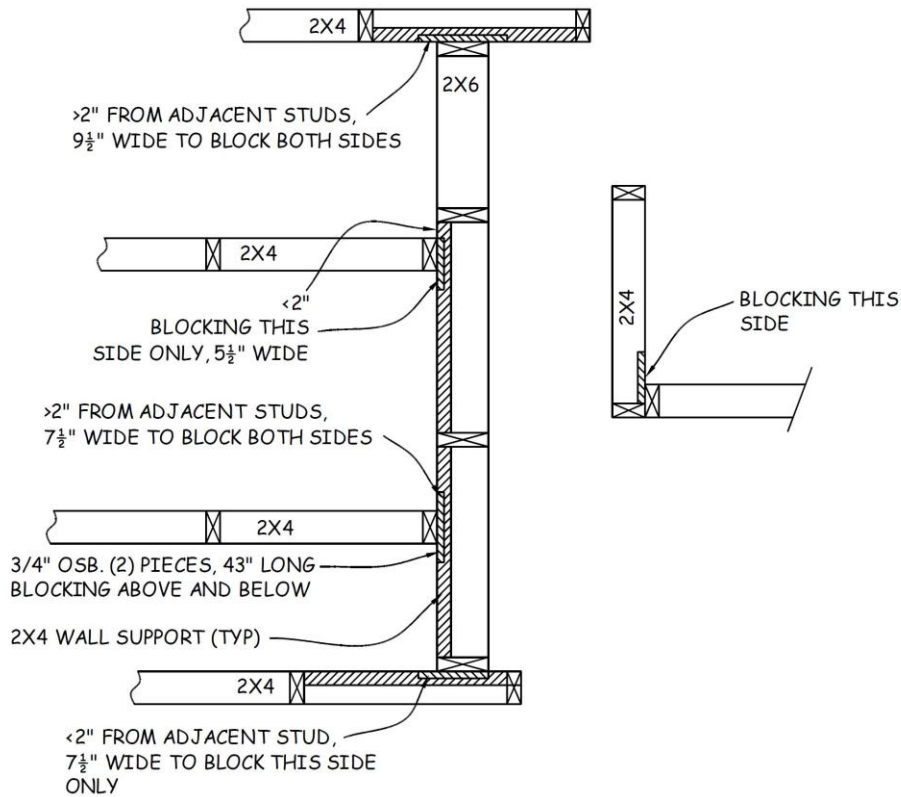

Figure 10-6. Blocking for Wall Rock.
4. Install two 43" long pieces of $\frac{3}{4}$ " OSB blocking at the ends of any interior walls that intersect an exterior wall – one above the 2x4 ladder block and one below the 2x4 ladder block. The blocking must extend at least 2" beyond the edges of the stud, so cut the OSB to a width of $5\frac{1}{2}$ " or $7\frac{1}{2}$ " for a 2x4 wall and $7\frac{1}{2}$ " or $9\frac{1}{2}$ " for a 2x6 wall. Pre-drill four pairs of $\frac{3}{16}$ " holes, spaced evenly vertically, through the stud (about $\frac{1}{2}$ "- $\frac{3}{4}$ " in from each edge). To attach the blocking, hold the piece of OSB in place, making sure it is tight (no gaps) to the outside of the end stud (use a clamp, if necessary). Attach the OSB blocking by screwing 3" sheetrock screws through the holes in the 2x4 into the OSB, turning the screw until it is buried about $\frac{1}{4}$ " into the stud. If there is access to drive screws from the blocking side of stud, it is acceptable to use two layers of $\frac{1}{2}$ " OSB. See Figure 10-6.
5. Where an interior wall intersects an interior wall (see Figure 10-6), install blocking using 2x4's, $\frac{3}{4}$ " OSB, or two layers of $\frac{1}{2}$ " OSB. Secure the blocking to the end stud using 16d nails for 2x4 blocking and 3" sheetrock screws for OSB blocking.